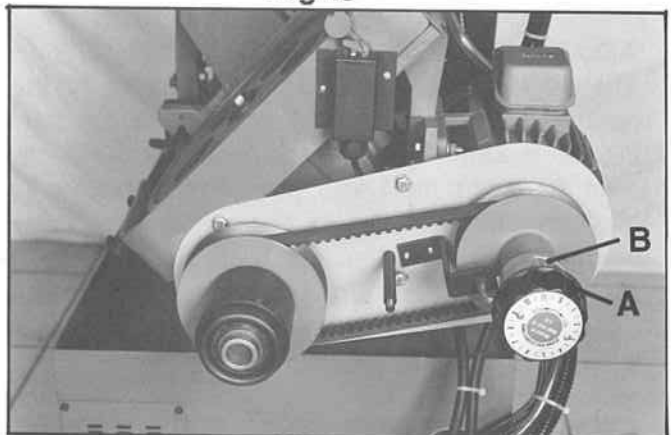

Fig 14
TO ADJUST THE CUTTING SPEED, PLEASE REFER TO FIG. 14 (B) IS THE SPEEDS' DIRECTOR (FORM 25M-75M). AND TURNING (A) HANDLE KNOB TO YOUR DESIRED SPEED. (NOTE : ADJUSTMENT MUST BE DONE DURING THE MACHINE RUNNING.)